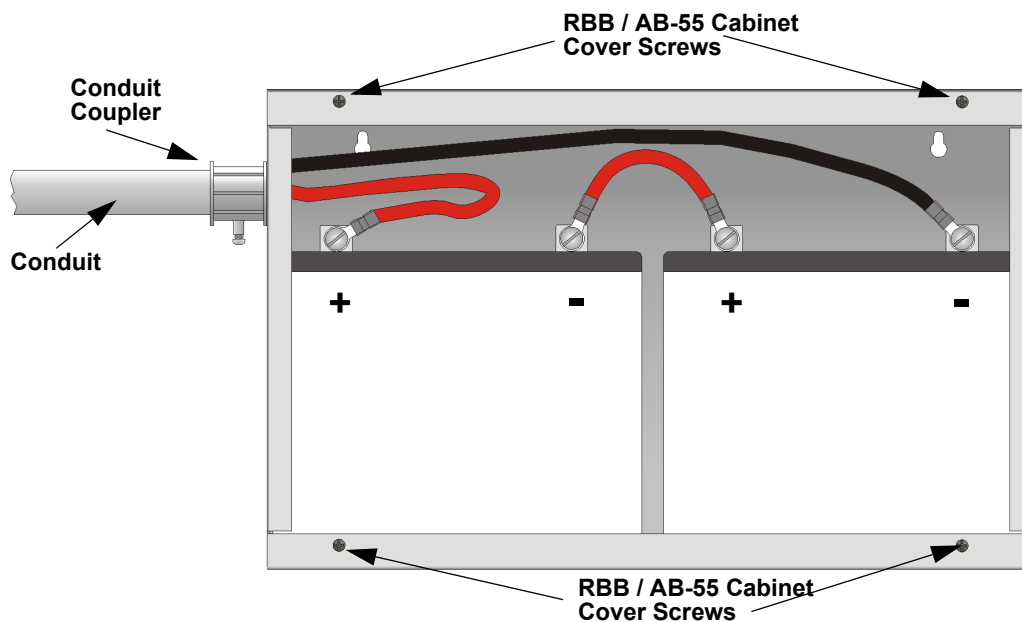

Figure 4-6 Battery Connections in the RBB or AB-55 Cabinet
3. Run extended battery cable from control panel cabinet through conduit to RBB or AB-55 cabinet. See Figure 4-6.
Note: Figure 4-6 is an example of how the wire connections can be routed. However, any other cabinet knock-outs (on either the main control panel or the RBB/AB-55 cabinet), that are not previously being used may be utilized to connect conduit between the two cabinets.
4. Connect battery leads to the backup battery terminals. See Figure 4-6.
5. Insert the RBB or AB-55 cover screws into the cover mounting holes. See Figure 4-6.